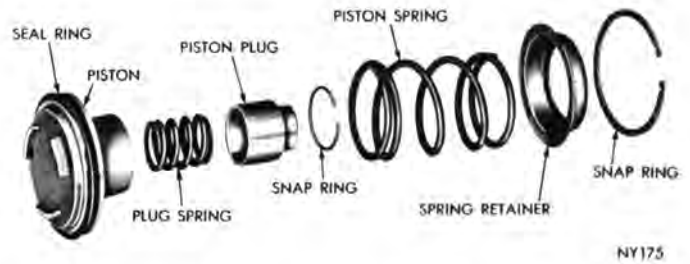

Fig. 111—Low and Reverse Servo—Disassembled
(1) Remove the snap ring from the piston and remove the piston plug and spring (Fig. 111).
the case with a twisting motion. Place the spring, retainer and snap ring over the piston (Fig. 111).